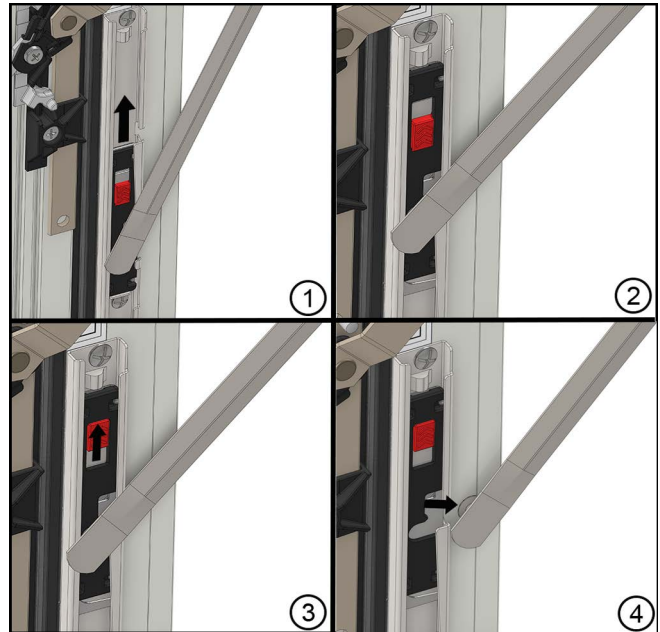

Figure 11
1. Unlock and open the window until the limited opening is reached. (1 & 2) Press the red button and slide up until the sash arm is disengaged. (3 & 4) Continue to open the window until it is fully opened. See Figure 11.